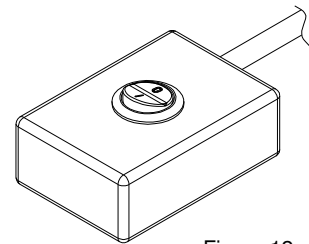

Figure 12
6. Ascend the vehicle, start moving it forward and switch the electrical coupling ON by means of the switch (Figure 12).
1. While driving, switch OFF the electrical coupling (Figure 12).